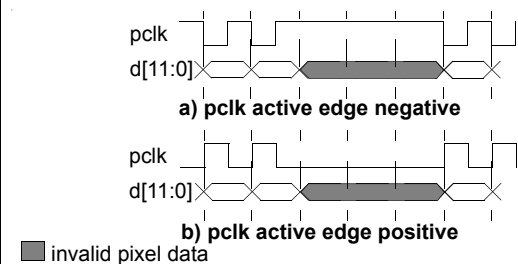

Figure 40. *pclk* in Data Ready Mode
- In data ready mode, the pixel clock output pin (*pclk*) will produce a pulse with a specified level every time valid pixel data appears on the digital video bus $d[11:0]$ as shown in Figure 40.